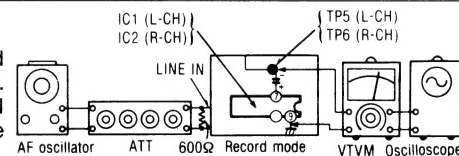

Fig. 20
1. Test equipment connection is shown in fig. 20.